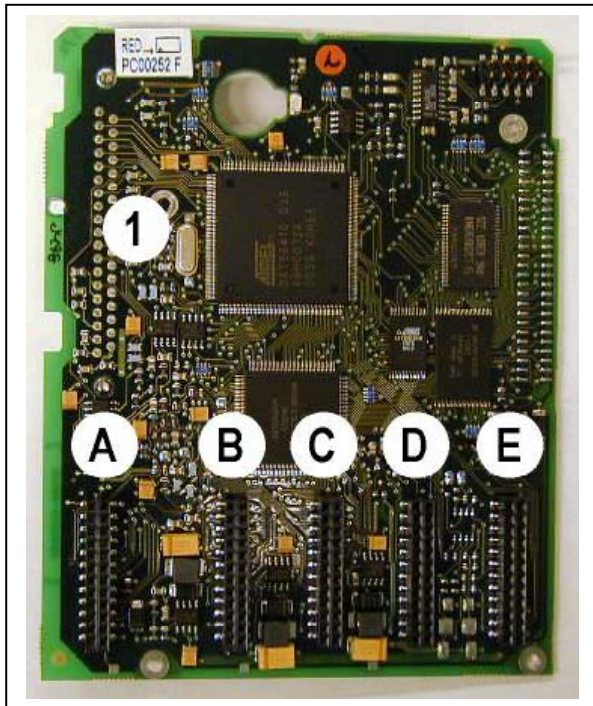

Figure 6-21. NX control board
The control unit of the frequency converter consists roughly of the control board and additional boards (see Figure 6-21 and Figure 6-22) connected to the five *slot connectors* (A to E) of the control board. The control board is connected to the power unit through a D-connector (1) or fibre optic cables (FR9).